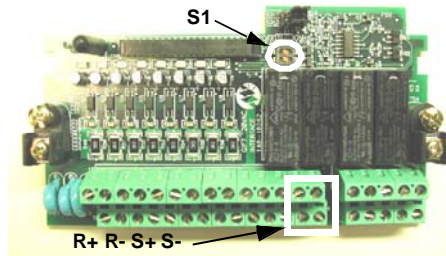

Figure 2-1. Control Board
Figure 2-1. Control Board	2-3
- *Figure 2-1. Control Board*
Dip Switch S1 is located on the control board. (See Figure 2-1 on the previous page) When S1 is on, a termination resistor (110 Ohms) is connected between S/R (+) and S/R (-).